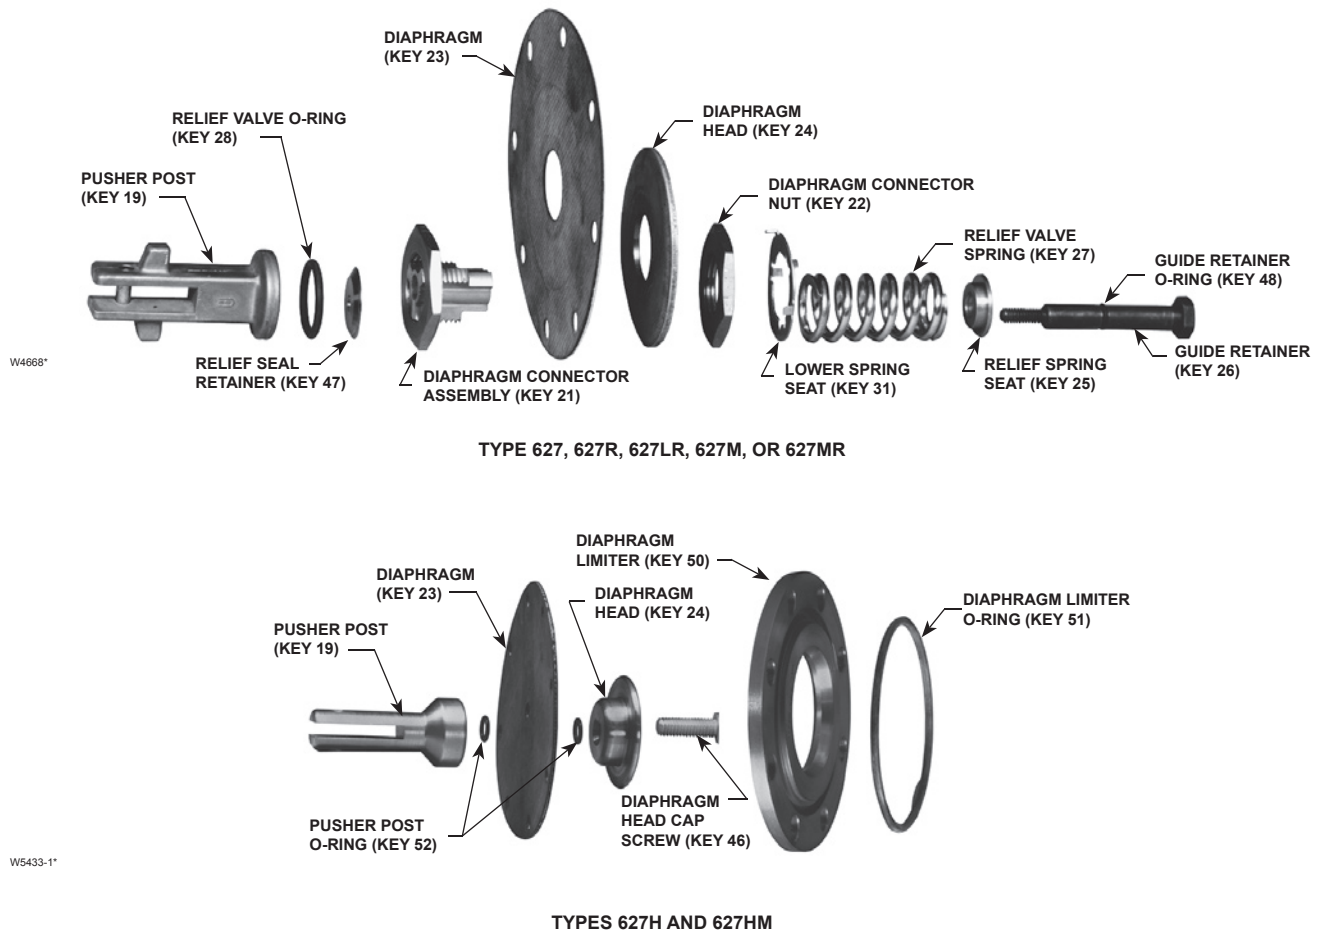

Figure 6. Diaphragm Assemblies
7. Remove the diaphragm head cap screw (key 46), lower spring seat (key 31, Type 627 or 627M only), and diaphragm head (key 24). On the Type 627H or 627HM, remove the pusher post O-rings (key 52). Separate the diaphragm (key 23) from the pusher post (key 19).
8. Install the diaphragm (key 23), in reverse order in step 7, on the pusher post (key 19), insert and finger tighten the diaphragm head cap screw (key 46).
9. Hook the pusher post on the lever (key 15), then turn the diaphragm (key 23) to match the holes in the diaphragm with the holes in the spring casing.
10. Unhook the pusher post from the lever (key 15) and torque the diaphragm head cap screw (key 46) to 7 foot-pounds / 9,5 N•m for the Type 627 or 627M. On the Type 627H or 627HM, torque the diaphragm head cap screw to 14 foot-pounds / 19 N•m.
11. Hook the pusher post on the lever (key 15) and check the hole alignment. If necessary, loosen the cap screw (key 46) and reposition the diaphragm (key 23) on the pusher post (key 19). Retorque the screw (see step 10). Skip to step 20.
12. For Types 627R, 627LR, and 627MR regulators (Figure 6), use steps 13 through 19 to disassemble and reassemble the diaphragm assembly.
13. Remove the guide retainer (key 26) and separate the diaphragm parts. Refer to Figure 6 for the sequence of parts.